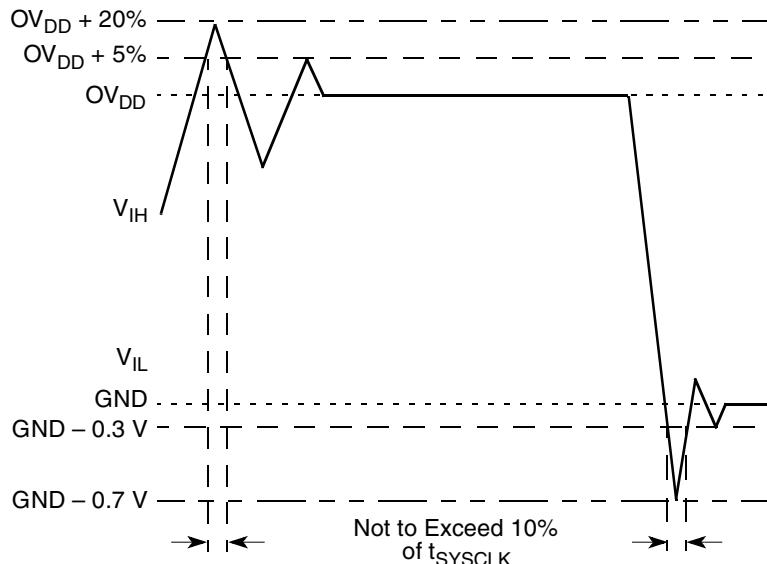

Figure 2. Overshoot/Ubershoot Voltage
7. V_{in} may overshoot/undershoot to a voltage and for a maximum duration as shown in Figure 2.
Figure 2 shows the undershoot and overshoot voltage on the MPC7447A.